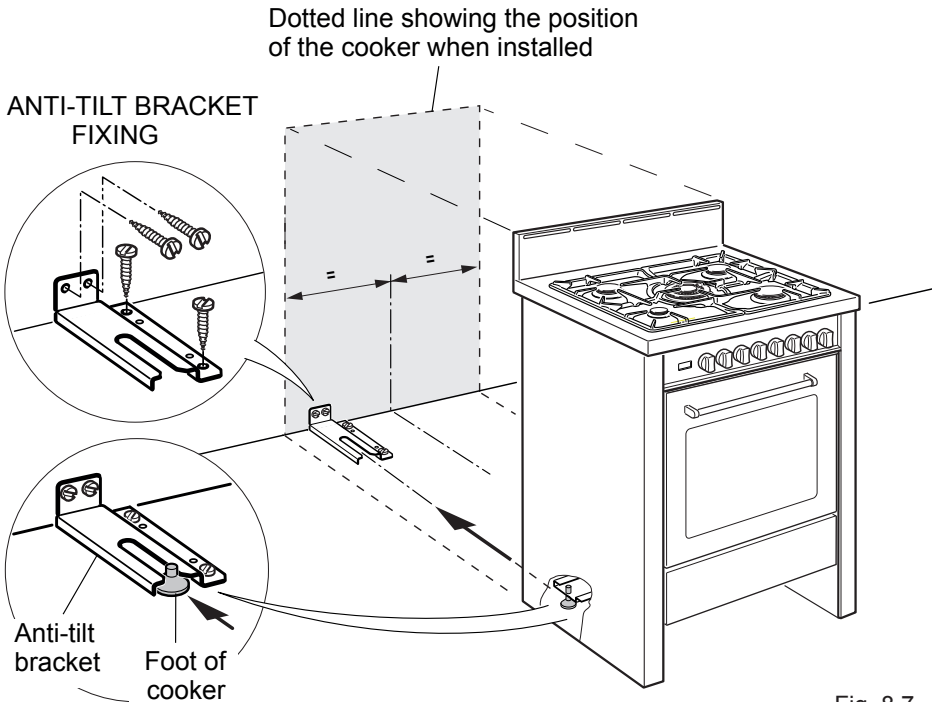

Fig. 8.7
1. After you have located where the cooker is to be positioned, mark on the wall and on the floor the place where the four screws of the anti-tilt bracket have to be fitted. Please follow the indications given in fig. 8.7.
2. Drill four 8mm diameter holes for the fixing screws (two in the wall and two in the floor—see fig. 8.7) and insert the plastic plugs supplied.
3. Attach the anti-tilt bracket to the floor and rear wall using the four screws supplied, as shown in fig. 8.7.
4. After attaching the anti-tilt bracket securely, slide the cooker into place. Ensure that the rear left foot slides under the bracket, as shown in fig. 8.7.